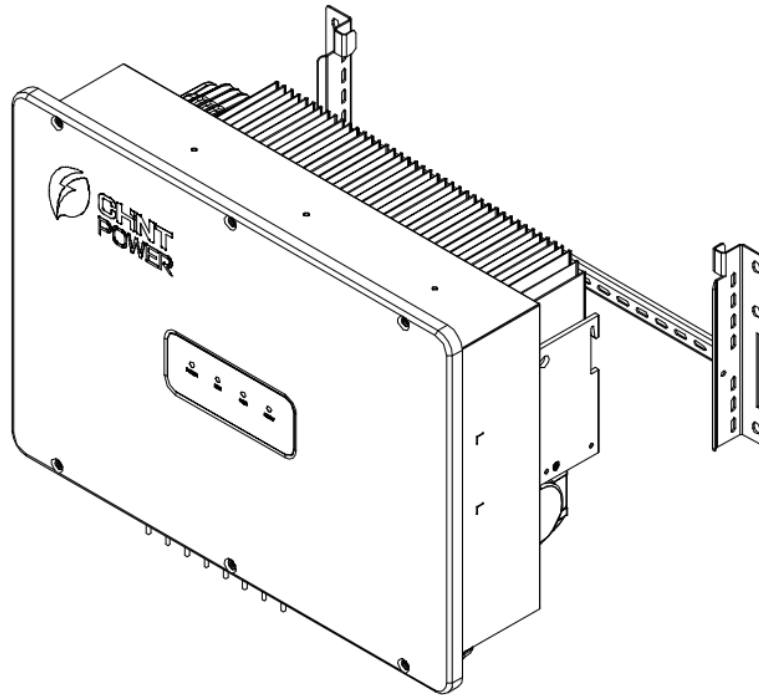

Figure 3-8 Hang the inverter host
4. Hang the inverter host on the mounting bracket according to Figure 3-8.